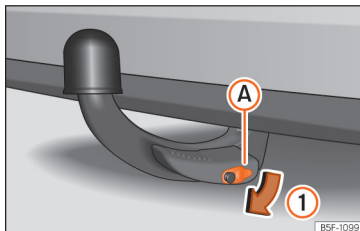

Fig. 271 Removing the lock cover.
- Remove cover (A) from the lock in the direction of arrow (1) » Fig. 271.